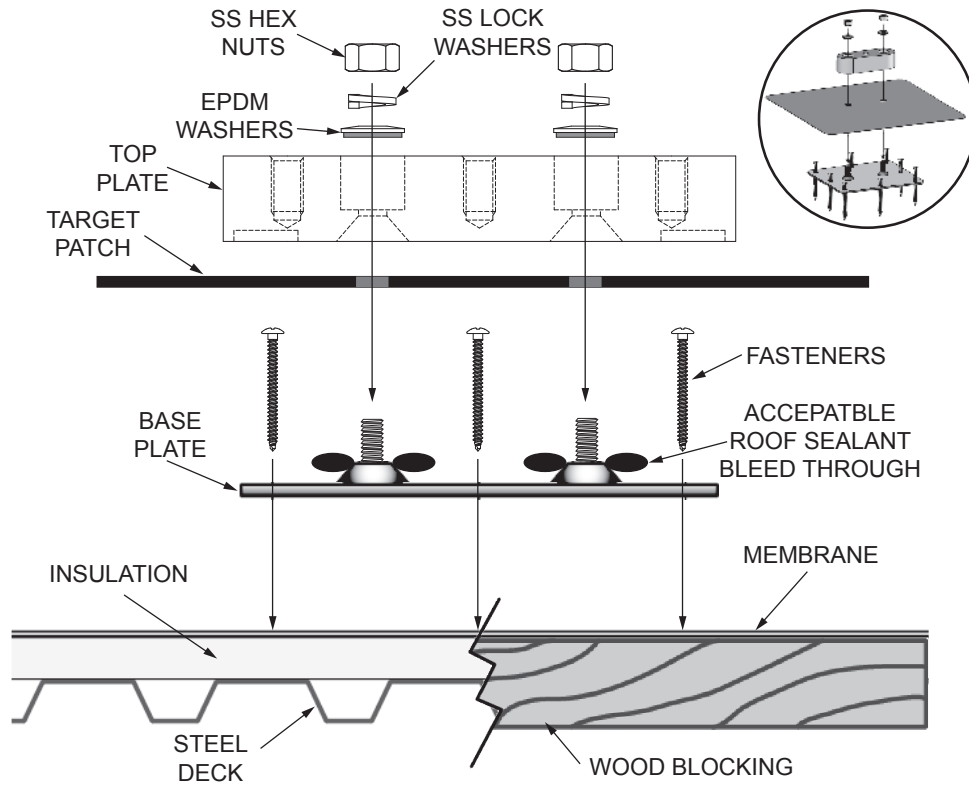

Figure 5.
- Install the included #14 x 3" OMG Heavy Duty Roof Fasteners or other suitable fasteners (dependent upon the roofing material type) through the holes in the perimeter of the base plate. See Figures 5 & 8.
7. The threaded studs should be the only part of the base plate that is exposed. There may be bleed out of the sealant applied around the studs. When the top plate is installed this will help create a water tight compression fitting. See Figure 5.
- installed properly. See Figure 5.
9. Install an EPDM bonded washer, stainless steel lock washer, and hex nut over each stud and tighten. See Figure 5.